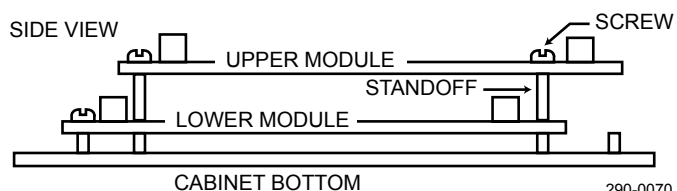

Figure 1: Mounting in stacked configuration
2. To mount above a T8000-LCU, add four standoffs at the offset mounting positions through the bottom module and secure the upper module to these standoffs with screws. See Figure 1.